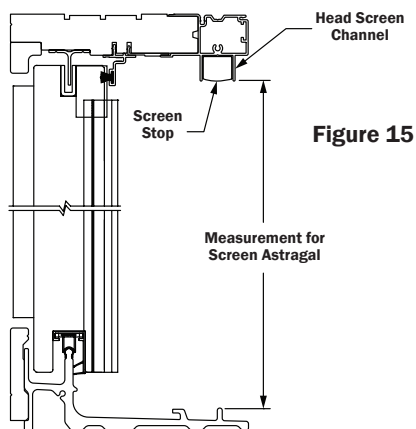

Figure 15
22. Measure the distance between the head screen channel and the screen roller track. Cut the screen astragal 1/8" shorter than this measurement (Figure 15).